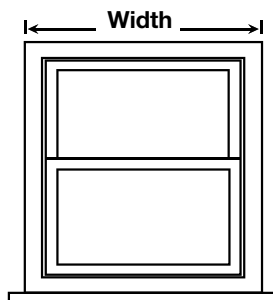

Figure 2
- 1 Measure window width including molding (see figure 2).